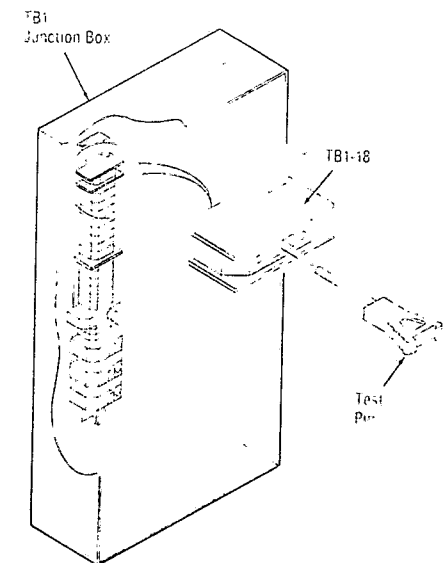

Figure 4-7. INSERT TEST PIN FOR SERVICE ROUTINE.
5. Insert test pin into junction box at TB1-18, as indicated in Figure 4-7.